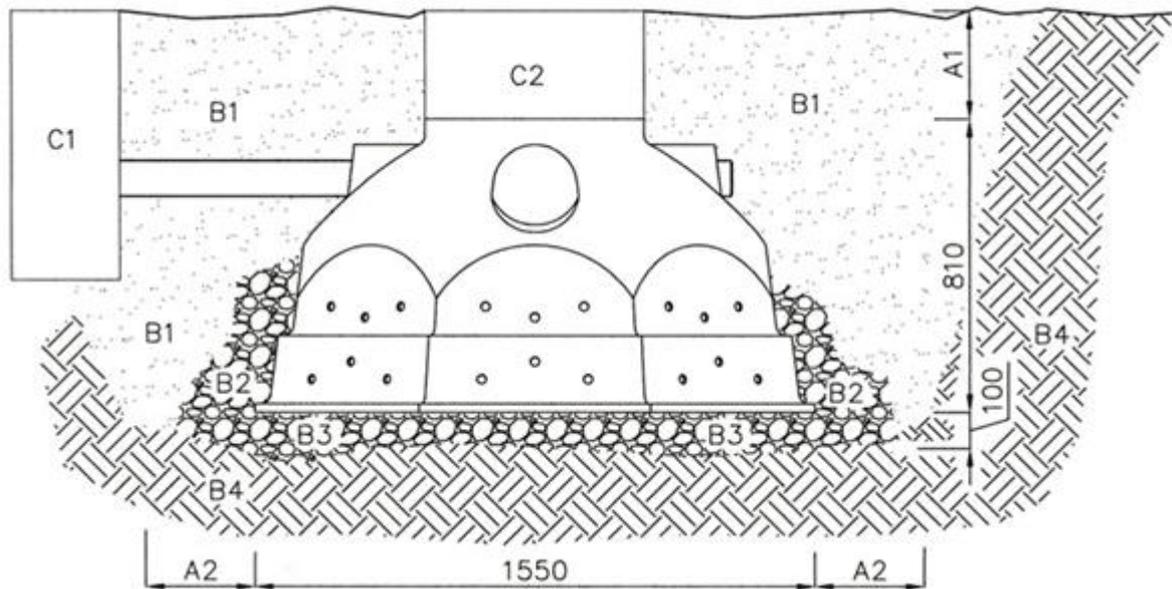

Fig. 1
**C1:** Upstream element, e.g. filter, further igloo (Fig. 1).